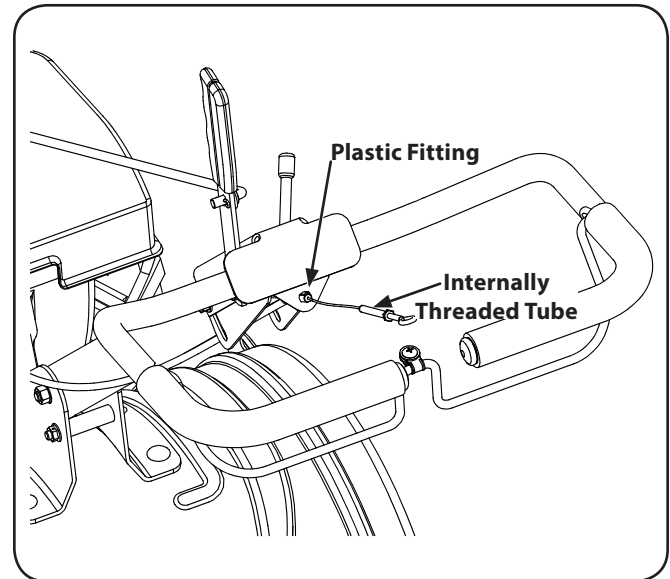

Figure 3-4
3. Push the cable through the hole in the center of the handle and snap into the plastic fitting. See Figure 3-4.